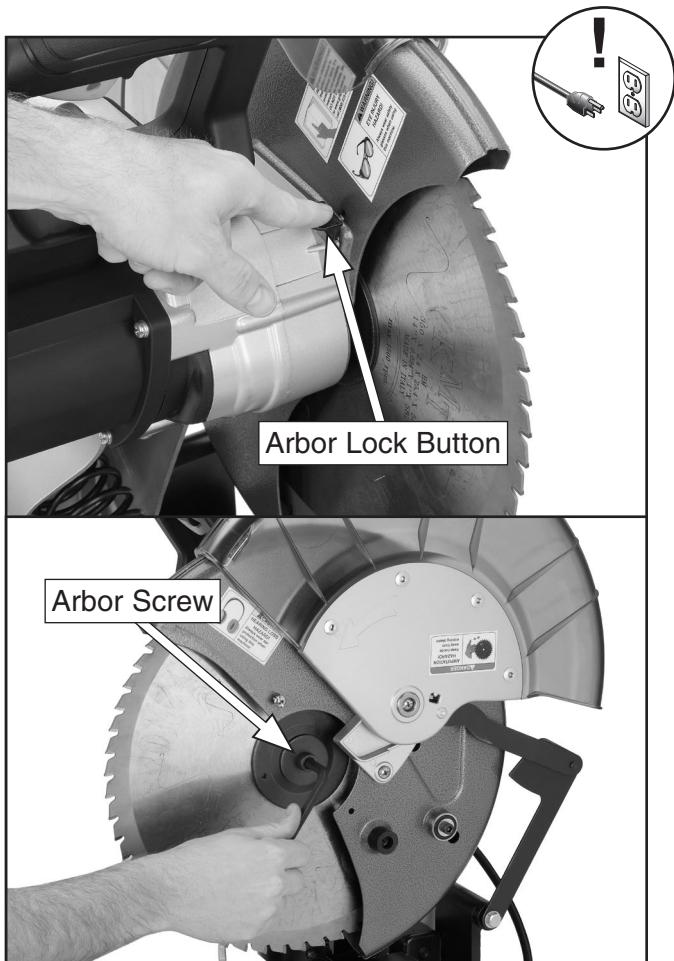

Figure 20. Arbor screw removal.
4. Lightly press down on the arbor lock button and rotate the blade until the button moves inward and locks the arbor. While holding the button, loosen the arbor screw (**Figure 20**).